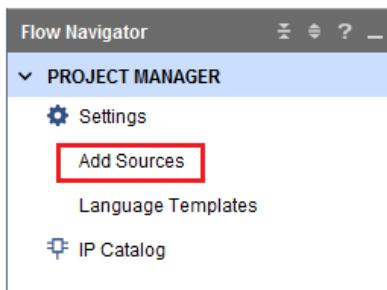

Figure 2.22: Add Sources command
8. In the Vivado **Flow Navigator** click the **Add Sources** command, see Figure 2.22.